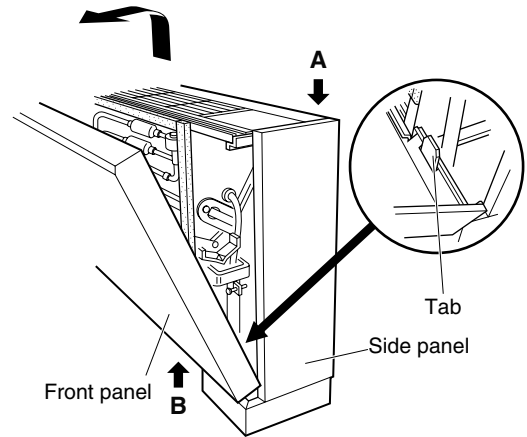

Fig. 3-180
- (1) Remove the 2 screws at the lower part of the front panel.
- (2) Holding **A** at the upper right of the unit, push up at **B** at the lower right of the panel. The right side of the front panel is removed. Then remove the left side of the front panel following the same procedure. (Fig. 3-180)
- (3) Disengage the lead wire connector (2P red) for the dew-prevention heater. (Fig. 3-180)